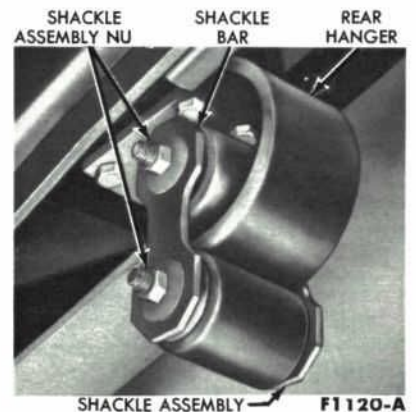

FIG. 115—Rear Spring and Rear Hanger
3. Remove the spring front hanger-to-underbody mounting bolts (Fig. 114). Remove the rear shackle nuts and shackle bar, then remove the shackle assembly from the rear hanger and spring (Fig. 115). Remove the spring and front hanger as an assembly. Remove the upper insulator and retainer from the spring.
1. Position the rear eye of the spring to the rear hanger and install the shackle assembly to the spring hanger (Fig. 115). The rear eye is at the long end of the tie bolt. Install the shackle bar and retaining nuts. Do not tighten the nuts at this time.